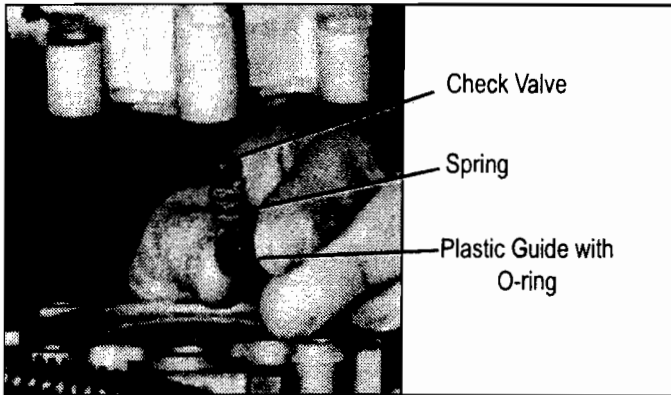

Figure 6 - INTERNAL CHECK VALVE
6. Remove the plastic guide, spring and check valve from the valve bore and discard. Note: The check valve may stick to its seat in the upper body. Be sure that all of the components are removed before going to the next step. Refer to Figure 6.